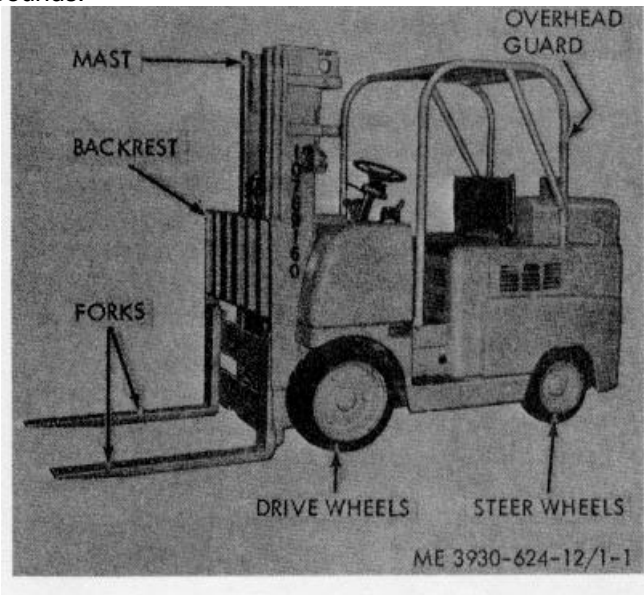

Figure 1-1. Truck, forklift, left front, three quarter view.
a. General. The Model F60-24PS-180 forklift truck (fig. 1-1 and 1-2) is built by the Allis-Chalmers Manufacturing Co. It is powered by gasoline engine, Model 6MB-230 and has a lifting capacity of 6000 pounds.